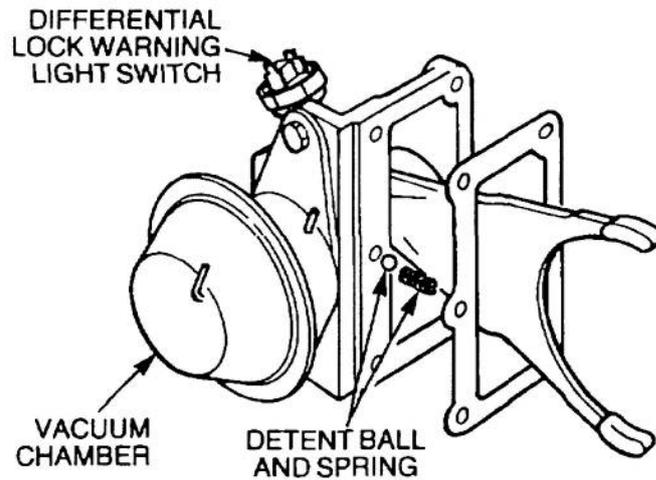

Figure 204 Removal of the Differential Lock Vacuum Chamber Assembly
- m. Remove the four bolts and lock-washers retaining the differential lock vacuum chamber assembly (Figure 204). Remove the differential lock vacuum chamber assembly and discard the gasket and lock-washers. Take care not to lose the detent ball and spring during removal.